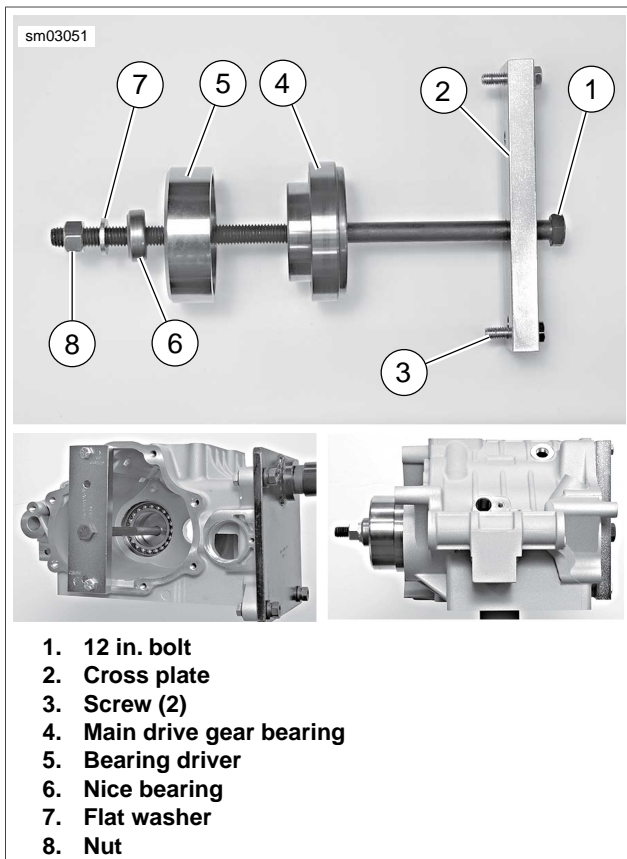

Figure 7-44. Installing Main Drive Gear Bearing (Typical)
1. See Figure 7-44. Place CROSS PLATE (Part No. HD-35316-3A) (2) on right side of transmission case as shown, and secure with two screws (3). Position cross plate so that large bolt hole in cross plate is lined up with center of main drive gear bearing bore in left side of transmission case.
2. Insert 12 IN. BOLT (Part No. HD-35316-5) (1) through cross plate and main drive gear bearing bore.
3. At outside of case, place main drive gear bearing (4), BEARING DRIVER (Part No. HD-35316-8) (5), BEARING (Part No. 217801) (6), FLAT WASHER (7) and NUT (8) over end of bolt.